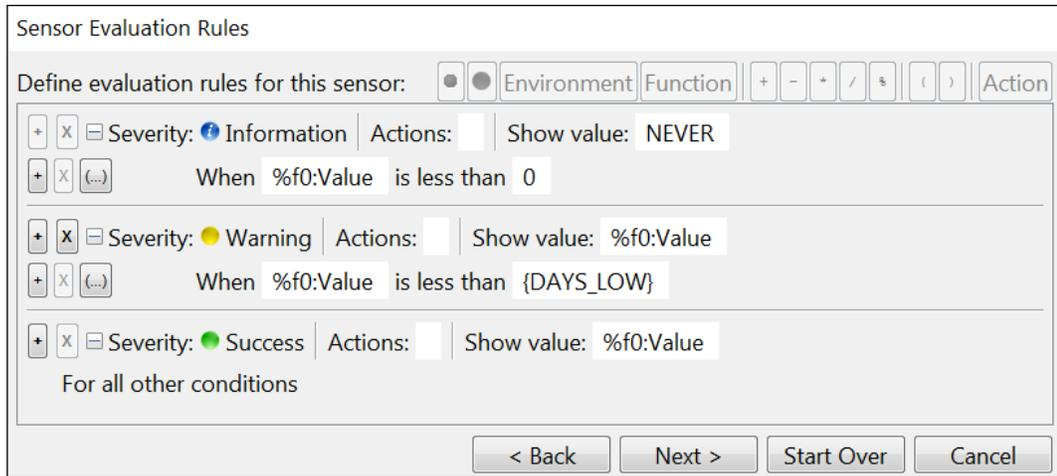

Figure 4-74. Sensor Rules
13. If you want to convert hard coded names into names with environment variables, ensure that the *Auto parameterize* check box is selected and then click **Next**. The *Sensor Evaluation Rules* screen (Figure 4-74) will be displayed.